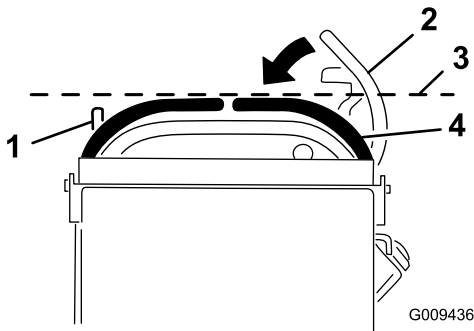

Figure 67
3. Push the right motion-control lever down out of the neutral-locked position (Figure 67).
4. Check if the right motion-control lever aligns horizontally with the left motion-control lever (Figure 67).